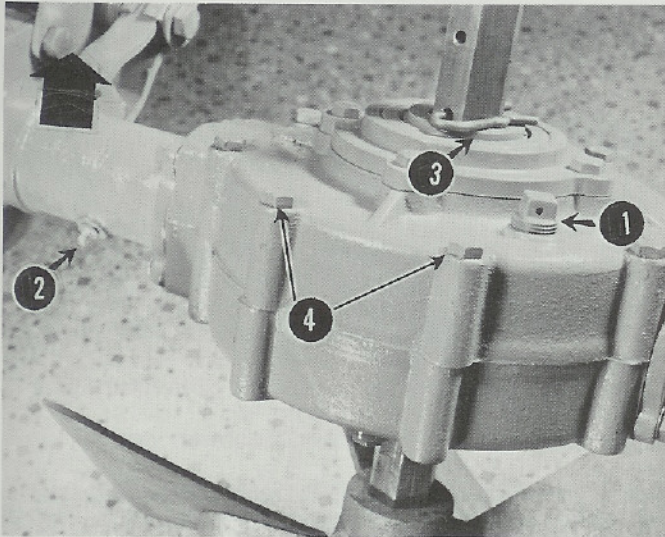

Figure 23
The Rotary Plow is attached to the Tractor by two Nuts and two Bolts. One Bolt and one Nut must be used to attach the Angle Adjusting Bracket, upper left in Figure 23.
Use occasionally General Purpose Grease in the swivel casting grease fitting, (2 in Figure 23).
Use the pin or clip, (3 in Figure 23), in the Hex Shaft for initial Cutting depth adjustment. The higher on the Shaft the Pin is inserted, the greater the depth of cut and vice versa. Ordinarily, the Pin is inserted in one of the top holes for plowing and in the bottom hole for transporting.
The Dirt Shield is attached to the top of the Gear Housing by removing the bolts, (4 in Figure 23), inserting them through the Shield, and replacing in the Gear Housing. You can use the Dirt Shield to direct the throw of the dirt, by bending it up or down.
1. Leave the Plow Angle Adjusting Assembly (upper left in Figure 23) attached.